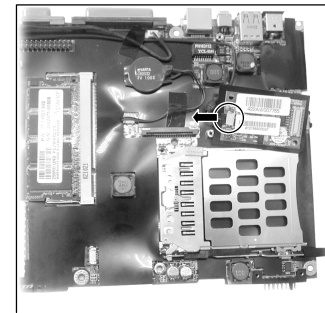

Figure 2-27 Disconnect the MDC cable
4. Then disconnect the cable from the modem card. (Figure 2-27)